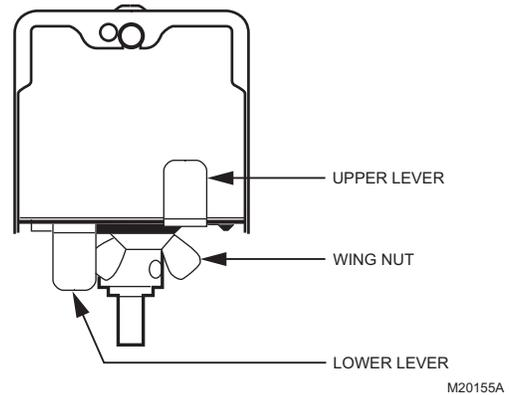

Fig. 7. Air flow adjustment.
1. When viewed on end, the lower lever is normally positioned to the extreme left and the upper lever positioned to the extreme right. See Fig. 7. This position provides complete shutoff when the actuator is energized.
3. The lower lever is normally positioned to the left to allow the damper to fully open 90° when energized. See Fig. 7.
5. If the full opening and closing is not achieved, check that the lower adjustment lever is to the extreme left and the upper lever is to the extreme right. See Fig. 7.